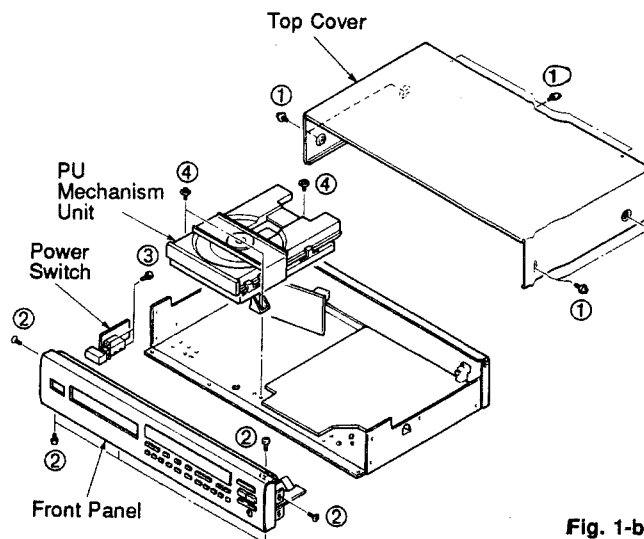

Fig. 1-b
- a. Remove 3 screws (④) in Fig. 1-b.